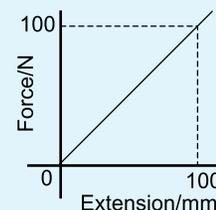

Figure 15.11
8. A force/extension graph for a spring is shown in Figure 15.11. Which of the following statements is false?